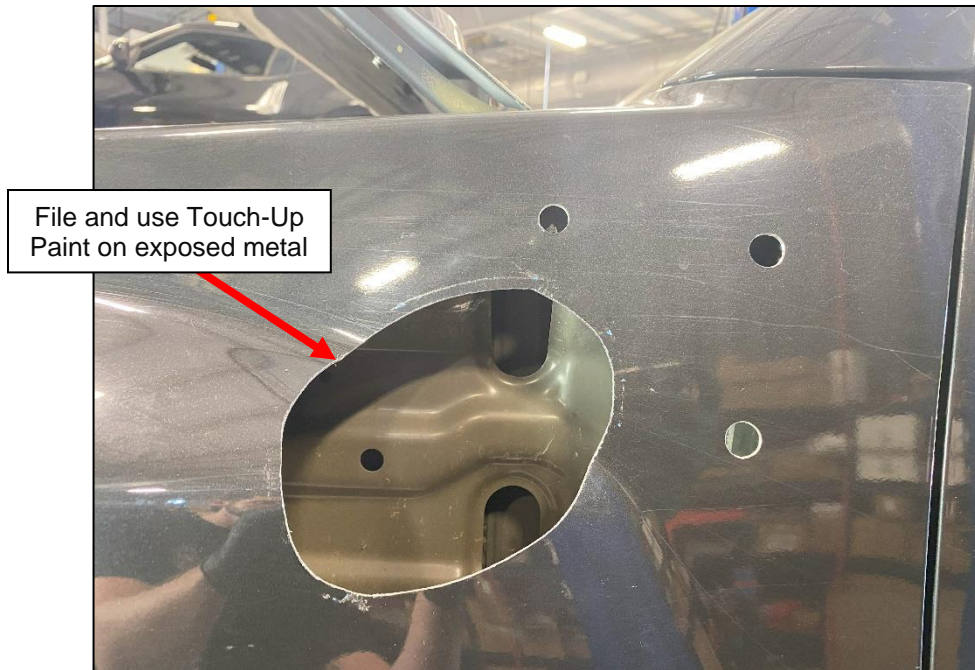

Figure 11
18. Use Touch-Up Paint and paint the edges of where you cut to prevent corrosion. Allow ample time for the paint to cure. *Figure 11.*